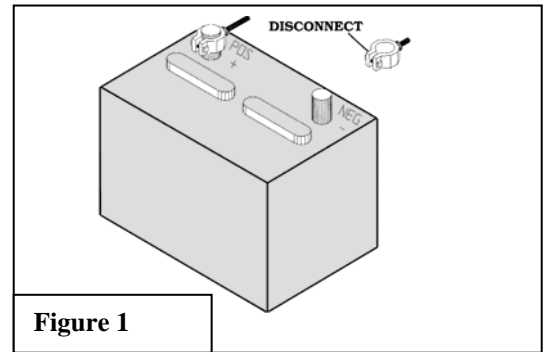

Figure 1
1. It is advisable to disconnect the negative battery cable for 3 minutes before beginning installation, to avoid unintended air bag deployment or code being trigger in vehicle. Note and record any anti-theft radio codes prior to disconnecting. **Figure 1**